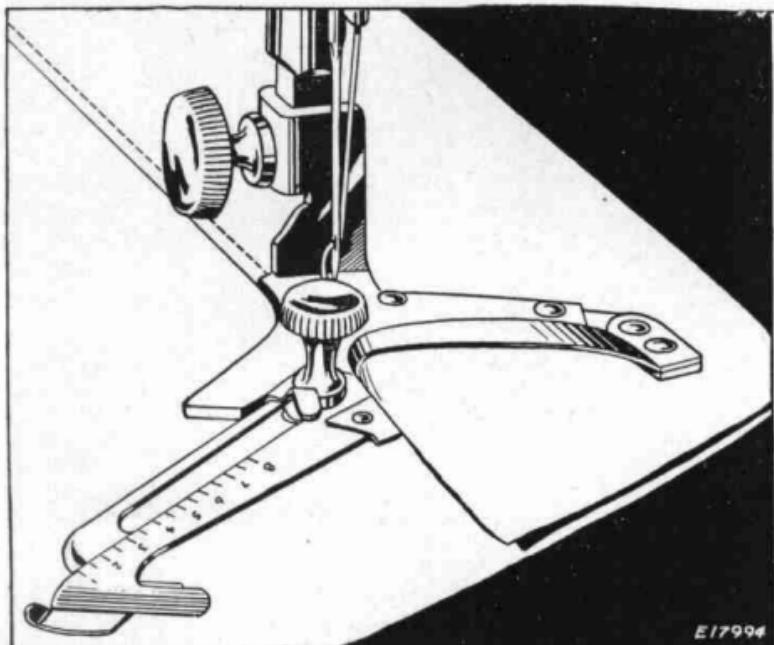

FIG. 43. SHOWING HOW ADJUSTABLE HEMMER IS USED
- (1) Loosen the thumb screw on the hemmer, move the scale to the right as far as it will go, then swing it toward you, as shown in **Fig. 43**, and tighten the thumb screw.
- (2) Fold and crease the desired width of hem.
- (3) Place the fold under the extension at the right of the hemmer and the edge into the folder, as shown in **Fig. 43**.
- (4) Draw the end of the hem back under the needle, lower the presser bar and commence to sew.
- (5) Guide the cloth to keep the hem flat.